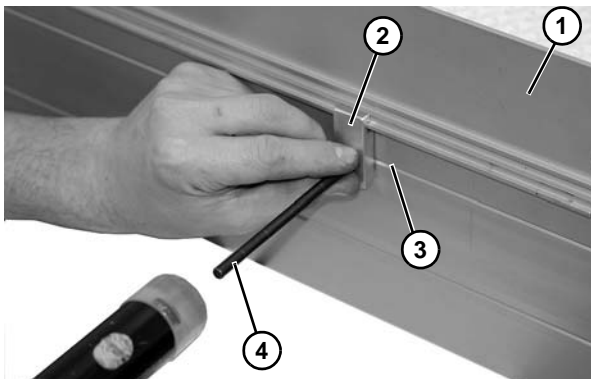

**Figure 26**
3. Hand tighten the screws to secure (**Figure 26**). Recommended torque is 150 in-lb (17 Nm).